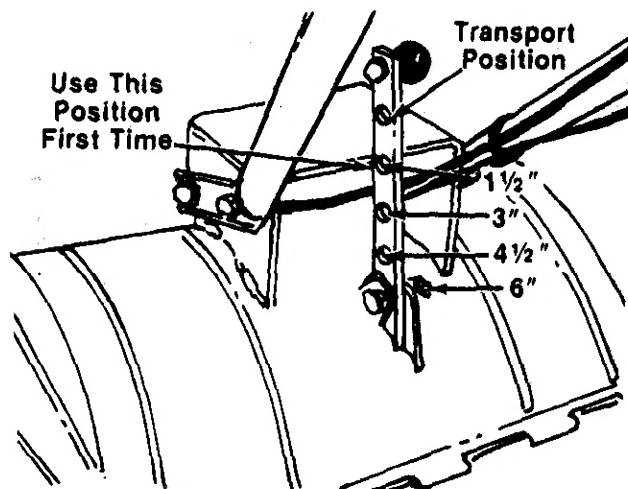
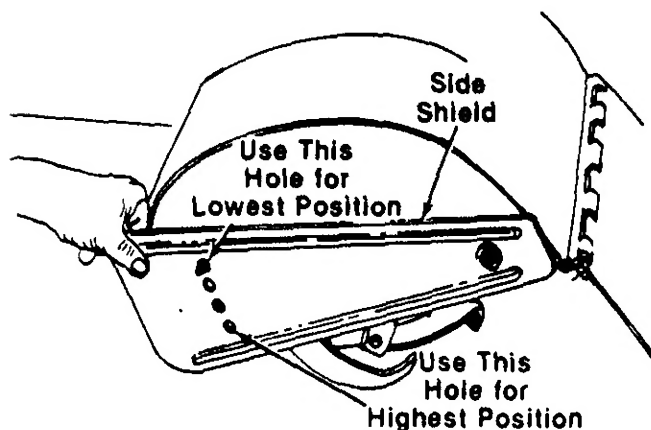

FIGURE 15.
FIGURE 16.
When operating the tiller for the first time, use the depth bar setting that gives 1 1/2 inches of tilling depth (second hole from the top). Refer to figure 15. Use slow speed only.
Tilling depth is controlled by the depth bar which can be adjusted to five different settings. See figure 15. Adjust the side shields as shown in figure 16, as you adjust the depth bar. Be certain spark plug wire is disconnected and grounded against the engine.
1. When using the tiller for the first time, use the second adjustment hole from the top (1 1/2" of tilling depth). See figure 15.
To adjust the depth bar, remove the clevis pin and hairpin cotter. See figure 15. Move the depth bar to the desired setting.
To adjust the side shields, remove the hex nut and belleville washer from the front and loosen the rear nut. See figure 16. Pivot the side shield to the desired position. Replace hex nut and belleville washer. Tighten securely.